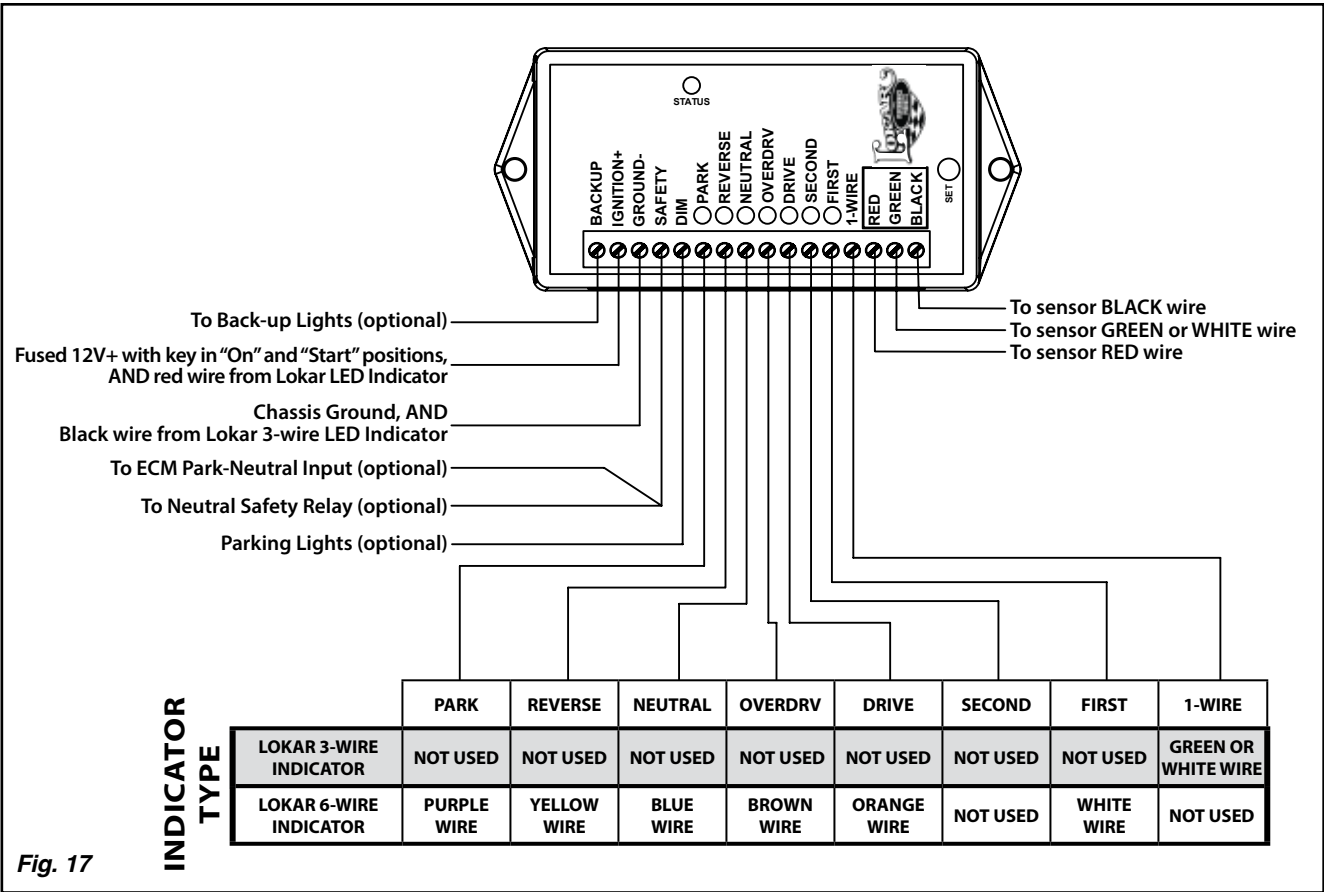

Fig. 17
Step 25: Following the wiring diagram in **Fig. 17**, connect the rest of the wires from the LED indicator to the decoder box.